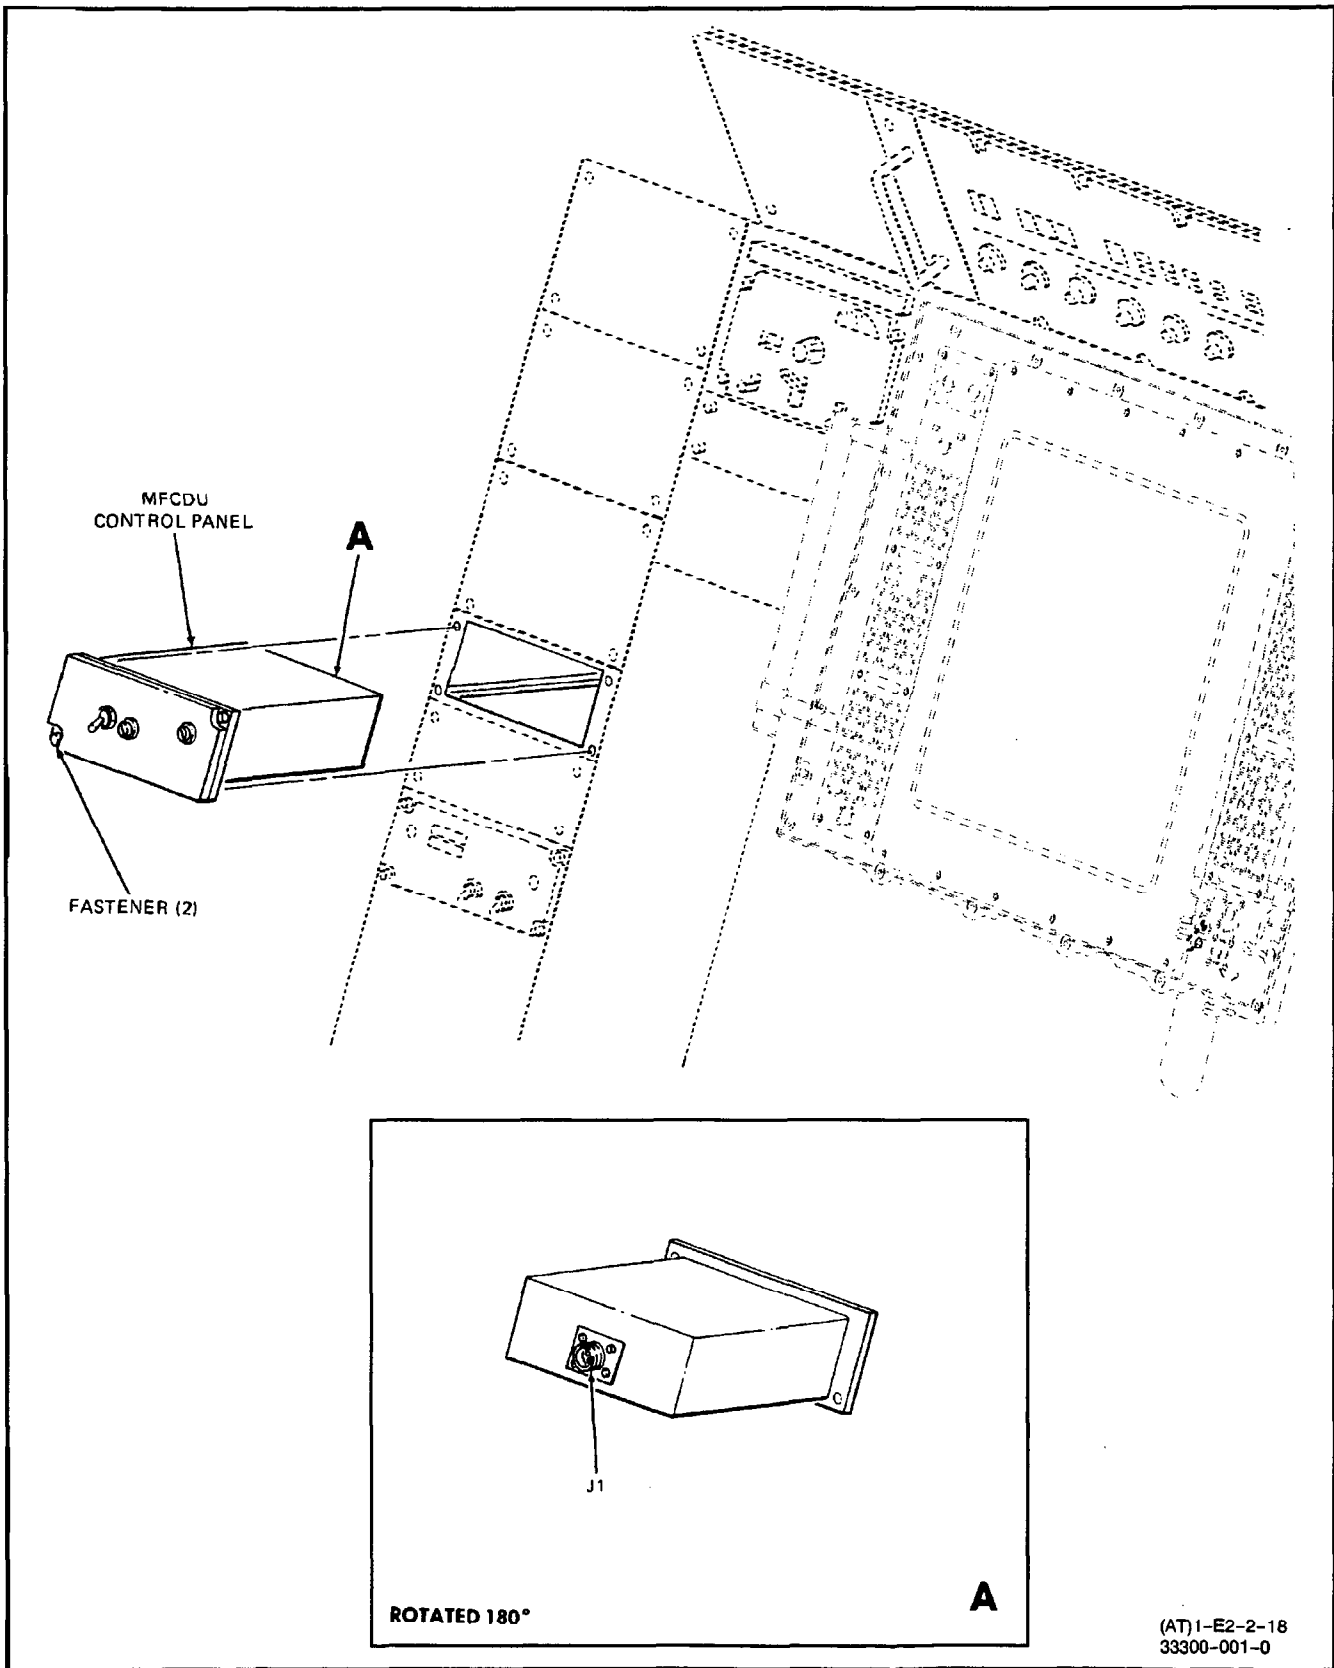

Figure 1. Removal and Installation of Multifunction Control Display Unit Control Panel in Crew Compartment, Left Side
**3. REMOVAL.** (Figure 1.)
4. **INSTALLATION.** (Figure 1.)